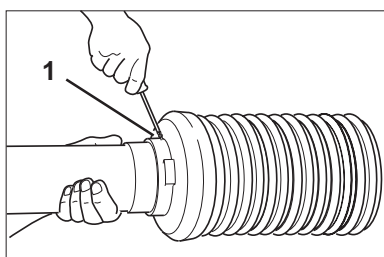

Fig. 5.2
- Remove fixing bolt (Fig. 5.2/1).